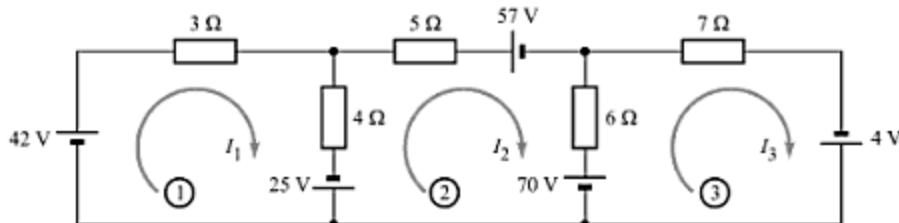

Fig. A-66
- A-23.** Determine the mesh currents in the circuit of Fig. A-66. [Ans. 5 A, -8 A, 2 A]